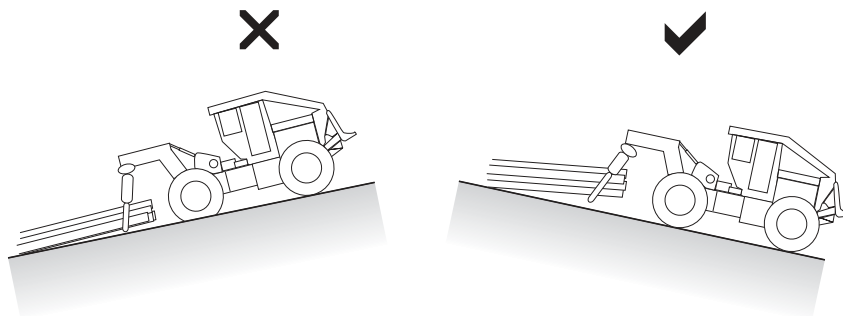

Figure 30. Try to skid downhill rather than uphill to keep axle loadings balanced and reduce slippage.
- Where possible, try to skid downhill rather than uphill. The risk of compaction and rutting is less with downhill skidding, because wheel slippage is less likely to occur (Figure 30).